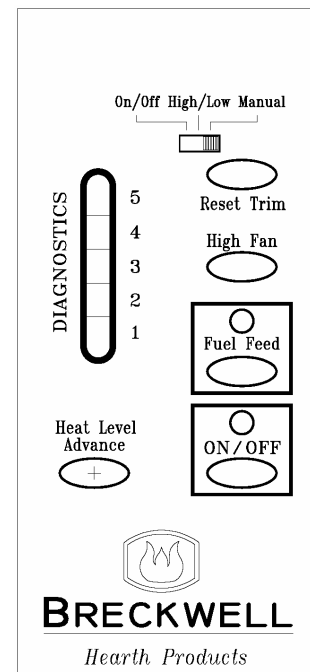

FIGURE 21
PANEL CONTROLS (See Figure 21)
- The green light located above the On/Off button (in the On/Off box) will flash during the ignition start-up period. (See figure 21)
- While the stove’s auger system is feeding pellets the green light (in the “Fuel Feed” box) will be on. (See figure 21)
- The two thermostat wires connect to the terminal block on the lower left side of the back of the control board. (See figure 21)